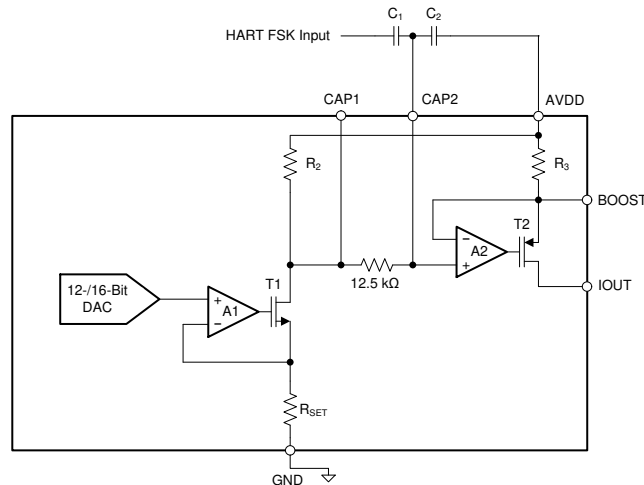

图 9-3. Implementing HART on IOUT Using the CAP2 Pin
The first method of implementing HART is to couple the signal through the CAP2 pin, as conceptualized in 图 9-3. Note that this pin is only available in the 40-pin VQFN package.
In 图 9-3, R_3 is nominally 40 Ω , and R_2 is dependent on the current output range (set by the RANGE bits) as described below:
1. As is seen in Figure 9-3, CAP2 is directly connected to the input of the final IOUT amplifier. Any noise or unwanted ac signal routed near the CAP1 and/or CAP2 pins could capacitively couple onto internal nodes and affect IOUT. Therefore, with the QFN package, it is important to avoid routing any digital or HART signal trace over the CAP1 and CAP2 traces.